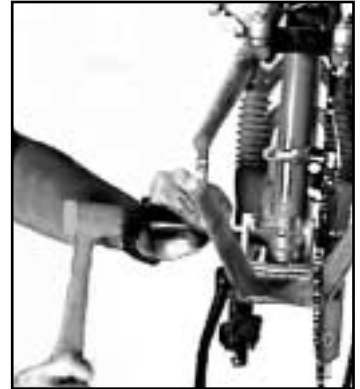

Fig. 35
1. Remove the main pivot bushing from the frame. This part is held in place with Loktite, so you will probably need to lightly tap it with a hammer to drive it out of the frame (Fig. 35). A socket on an extension makes a good drift punch. The socket should contact the metal portion of the bushing, barely fitting inside the swingarm and pivot lug.